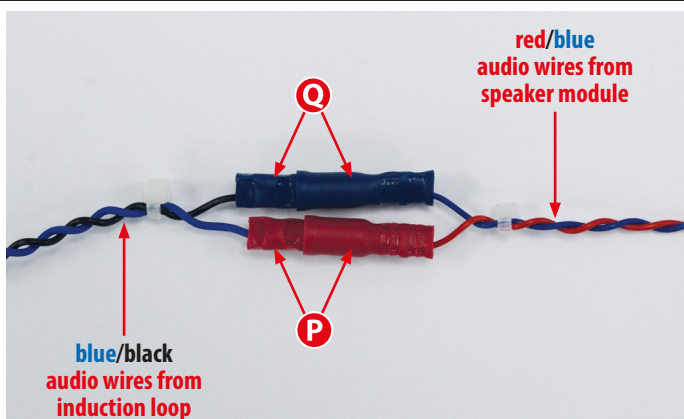

Fig. 30
19. Finally clip the **red** male/female bullet connectors (see **Fig.30, P**) and the **blue** male/female bullet connectors (see **Fig.30, Q**) together.
i IMPORTANT NOTE: In step 19 above please pay particular attention to the colour coding of the male/female bullet connectors as the audio cable (**blue/black** wires) from the induction loop and the **red/blue** wires from the audio speaker module **must be connected based on the red/blue** colours of the bullet connectors and not based on the colours of the wires, as seen in **Fig.30**.